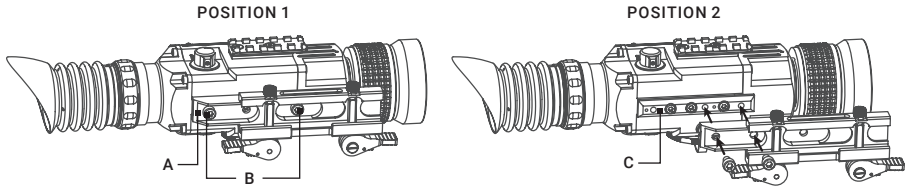

FIGURE 2-2. MOUNT ASSEMBLING
The Python comes fully-assembled with a Picatinny/Weaver mount (Figure 2-2).
1. Remove the two screws (B, Figure 2-2) that attach the mount (A, Figure 2-2) to the seating rail (C, Figure 2-2).